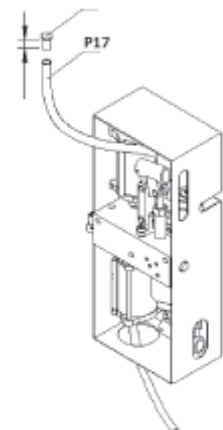

Fig.4
11.2.2 To avoid oil spillage from the oil hose (P17), the factory has fitted a plug in the oil hose for shipping. To remove the plug, trim about 10mm off the end of the oil hose (with the plug). (refer to fig.4)